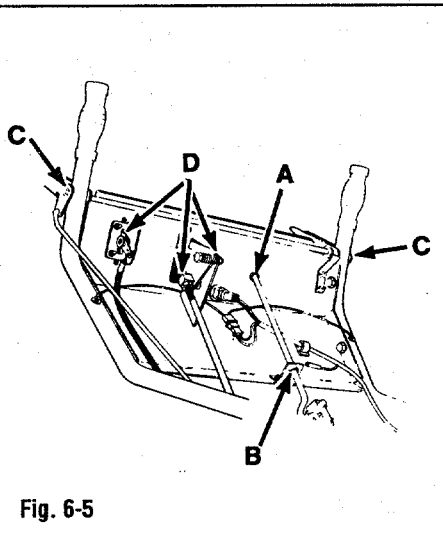

Fig. 6-5
- A. Control panel rear lip (A, Fig. 6-5);
- B. Support tab on front edge of control panel (B, Fig. 6-5);
6. Lubricate handlebar levers at pivot points (C, Fig. 6-5) with engine oil or a non-silicone spray. DO NOT get oil or lubricating spray on levers.
7. Apply a few drops of clean engine oil to pivot points on throttle control lever and gear shift control lever (D, Fig. 6-5).